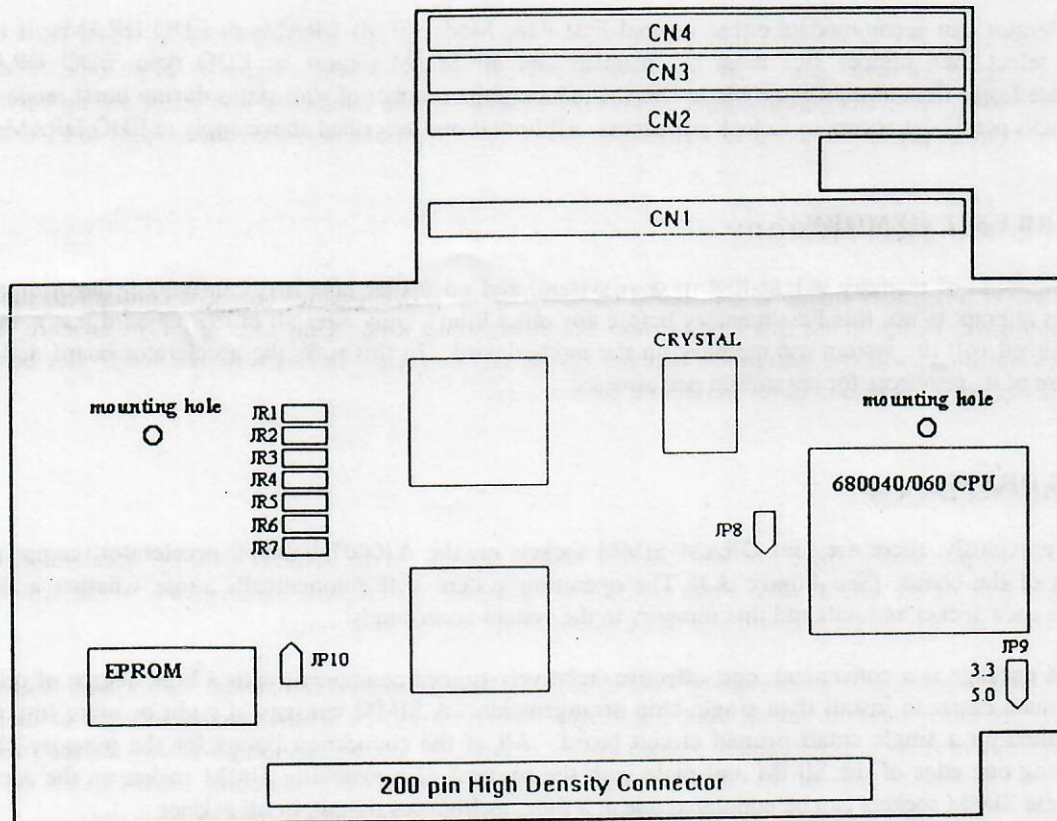

Figure 3.3 - A4000T Board Layout
The A4000T-040/060 accelerator has four SIMM sockets (CN1-CN4) which are located on the upper half of the component side of the board (See figure 3.3) The board is designed to support "burst mode" and EDO type DRAMs in SIMM sizes of 4MB, 8MB, 16MB and 32MB (parity is not required). However, in order for the board to function properly the board must be configured correctly and several limitations must be observed for optimal performance. These configurations and limitations are discussed in the following sections.
As stated previously, there are four DRAM SIMM sockets on the A4000T-040/060 accelerator; comprising the upper part of the board. (See Figure 3.3) The operating system will automatically sense whether a SIMM is installed in each socket and will add this memory to the system accordingly.
- 2) Lay the accelerator board on the anti-static envelope in which it was packaged the way that it is displayed in figure 3.3.
- 4) The SIMMs are designed to fit into the sockets in only one way. Pin 1 of each SIMM is keyed with a notch and will only fit properly if this notch matches the corresponding key of the SIMM socket. Looking at the board as shown in figure 3.3 all socket keys are on the left side of the board. Orient each SIMM so that the notch or pin 1 is on your left and the edge with the silver contacts is pointing down. Simply slide the SIMM in on an angle, rotate it up, and snap it into place.
8) Install the nylon spacers on new accelerator in mounting holes shown in figure 3-3 by snapping them into place.